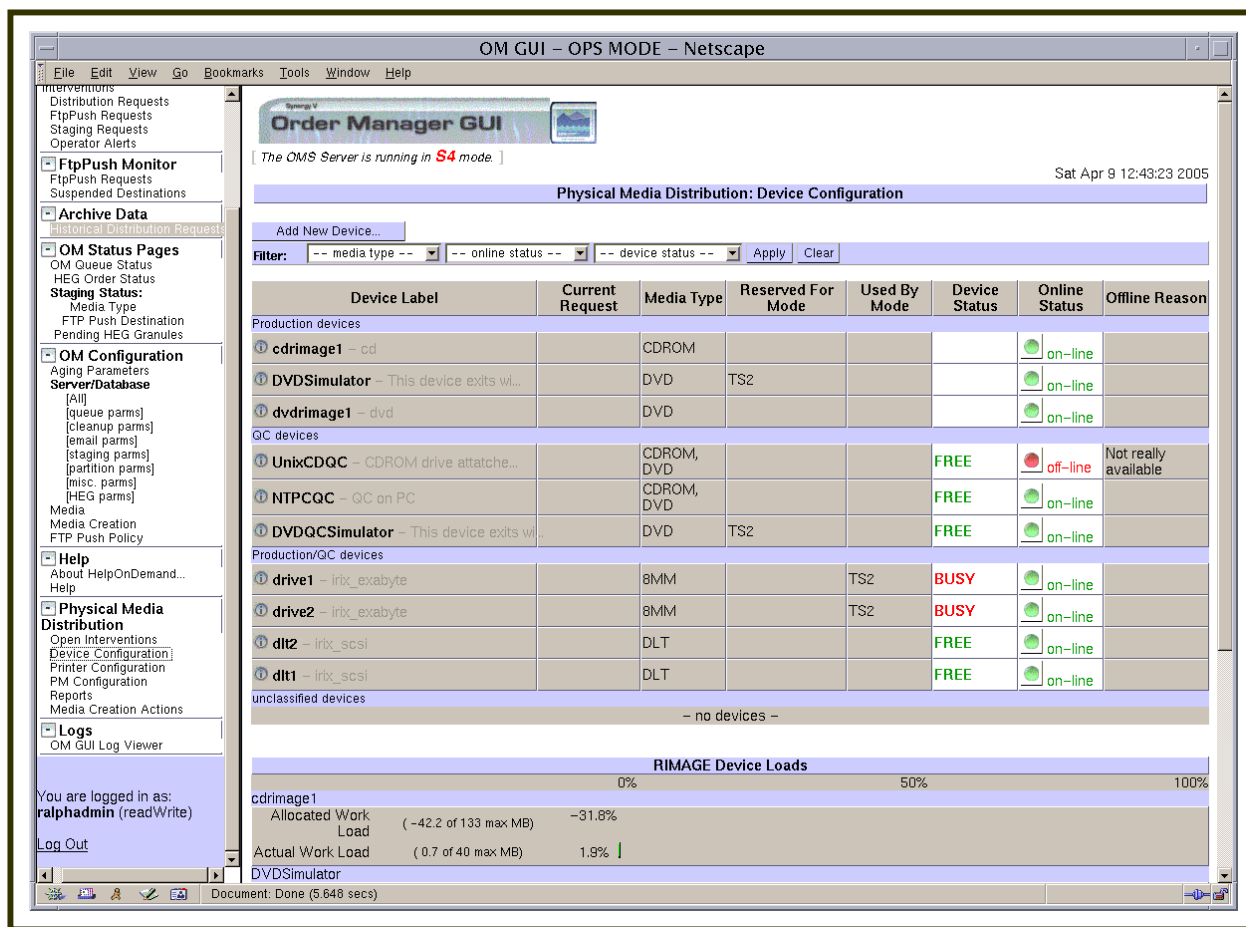

Figure 76. PMD Device Configuration Page
For Synergy V, the **OM GUI** displays the configuration of devices used in physical media creation. Additional devices can be “added.” The **PMD Device Configuration** page (Figure 76) displays the following types of information on all the currently configured devices:
In addition, the **PMD Device Configuration** page (Figure 76) gives the operator a quick visual indicator of the load for each Rimage device (i.e., each drive for creating CD or DVD media). It calculates the device’s current load and shows the percentage based on the maximum number of jobs that device has been configured to handle. This is based on the **Job Limit** parameter.
- The **PMD Device Configuration** page (Figure 76) is displayed.
- The **PMD Device Configuration** page (Figure 76) is being displayed.